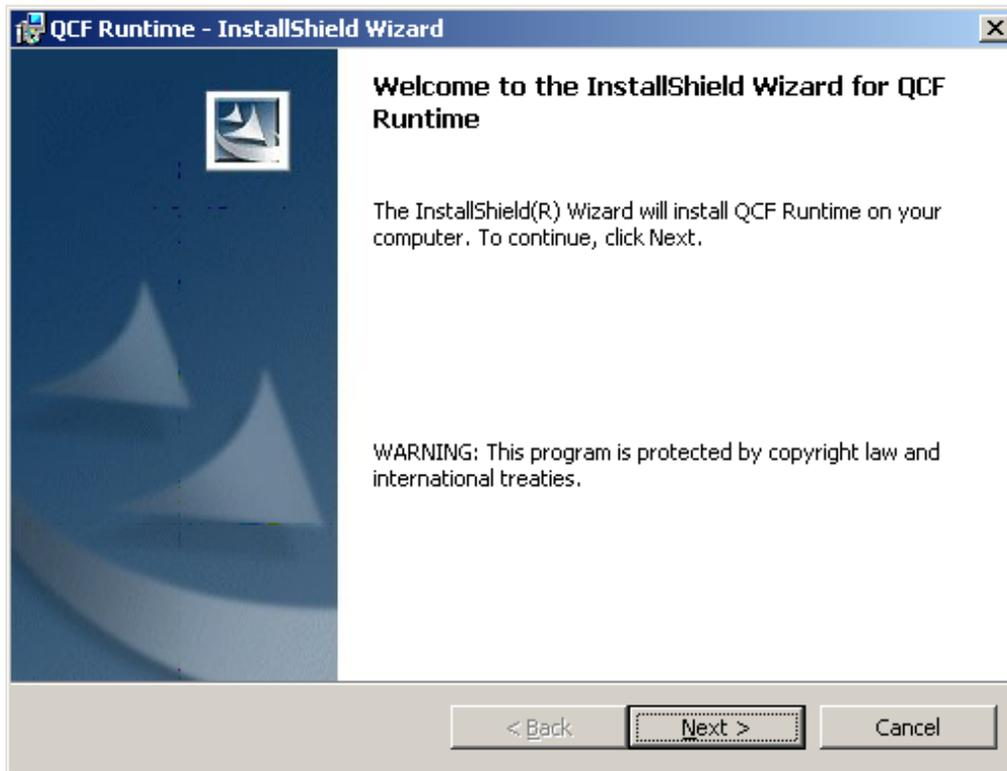

FIGURE 170. InstallShield Wizard Welcome window
8. When this has finished, the Welcome screen appears as in Figure 170: